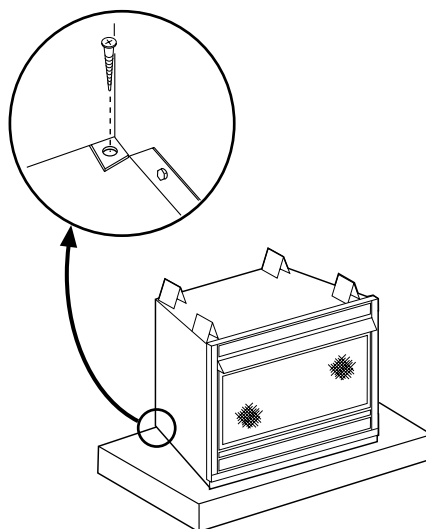

Figure 14
Step 8. Position Heater – Place the heater in desired location. It may be helpful to temporarily assemble the surround around the appliance to properly locate the unit. Refer to Figure 14 for floor and platform installations. If the heater is to be installed into a framed wall refer to the built-in assembly steps beginning on page 4.
Step 9. Secure Heater – Bend the tabs down (Figure 14). Using two (2) screws securely tighten the appliance to the platform.